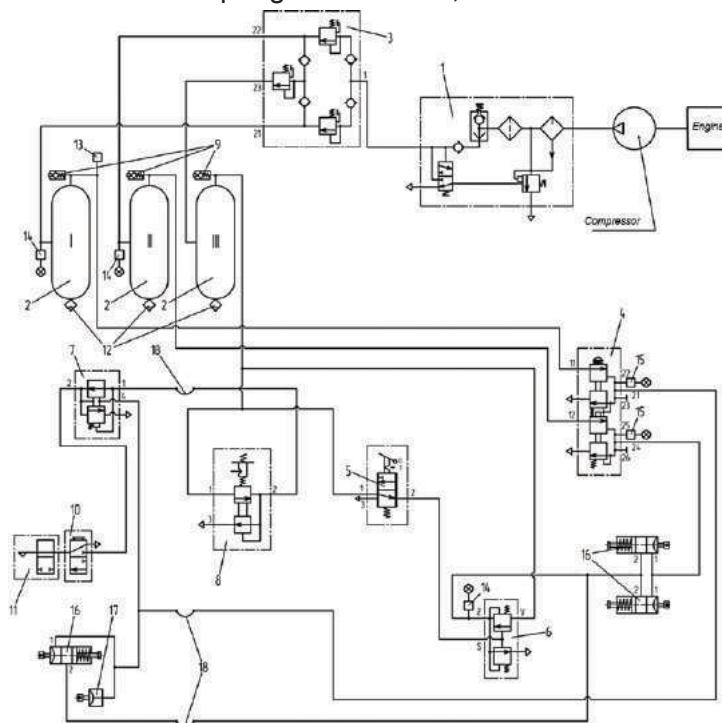

Fig. 42
The circuit independence is provided by the installation of a triple protection valve (3) into the mainline downstream of the pressure controller (1) (see the BRAKE SYSTEM DIAGRAM Fig. 42, page 65), which ensures the "cut-off" of a failed circuit from serviceable ones. In doing so, the serviceable circuits will keep functioning and will provide for tractor braking.